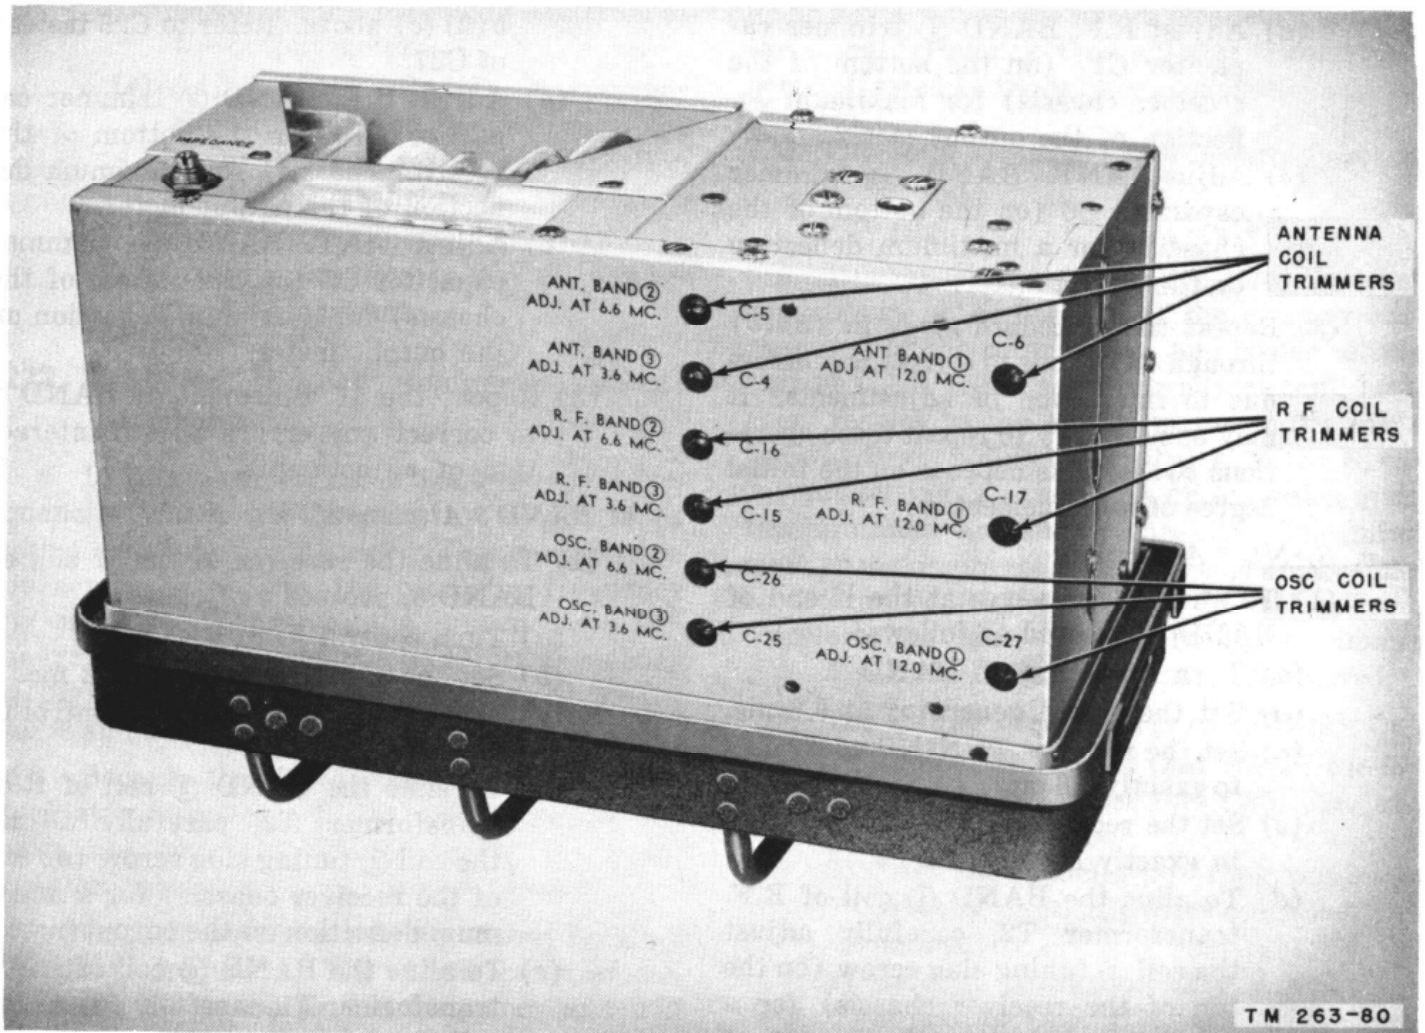

Figure 161. Receiver bottom, alignment points.
- (1) Remove the panel that covers oscillator trimmer capacitors C25, C26, and C27 (fig. 161).
- (2) Turn the capacitors to their minimum capacity position (plates completely unmeshed).
- (3) Refer to paragraph 221b, c, and d for adjusting C25, C26, and C27. Turn the capacitors until a first maximum is reached. This puts the oscillator